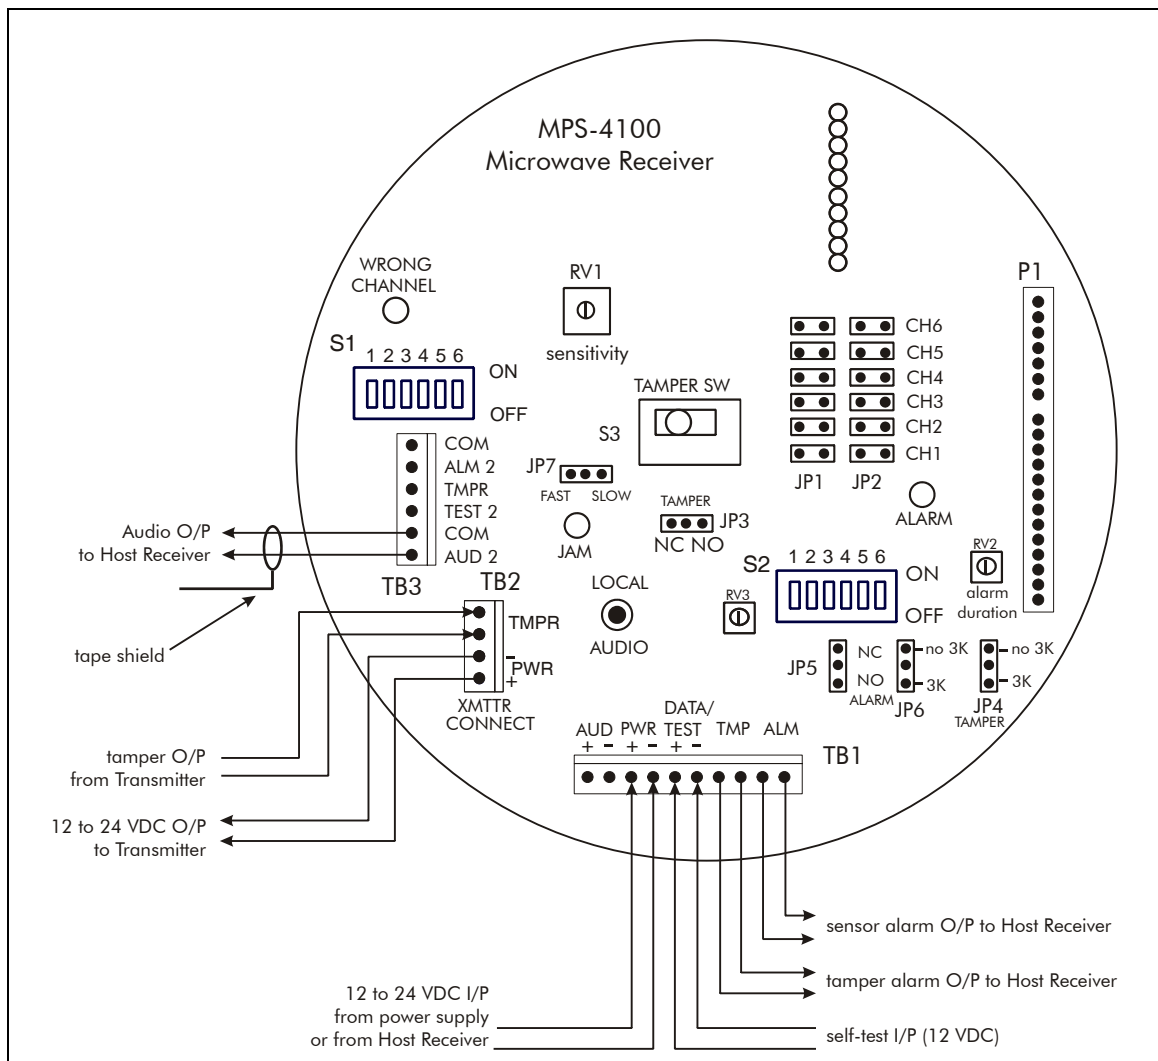

Figure 2-22 MPS-4100 Slave Receiver connections
1. Wire the power, alarm, tamper and self-test pairs to TB1 (see Figure 2-22).
1. Wire power, alarm, tamper and self-test pairs to TB1 (see Figure 2-22).